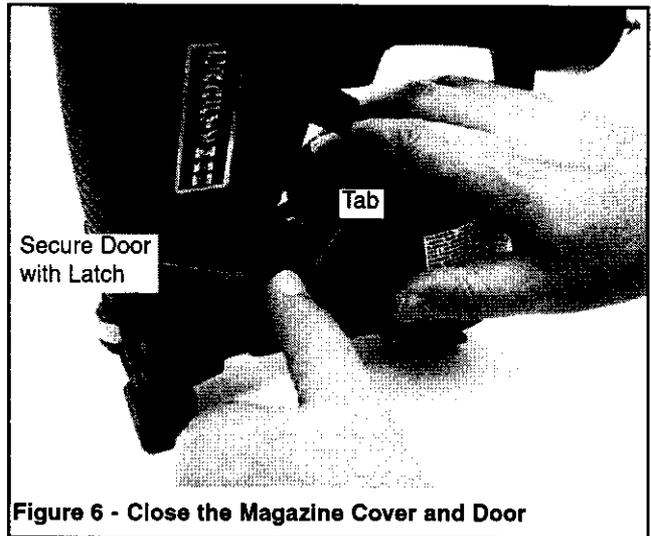

Figure 6 - Close the Magazine Cover and Door
- Carefully close the magazine cover first. Then close the door and secure in position with the latch. Make sure the tab in the door holds the magazine cover in place (see Figure 6).